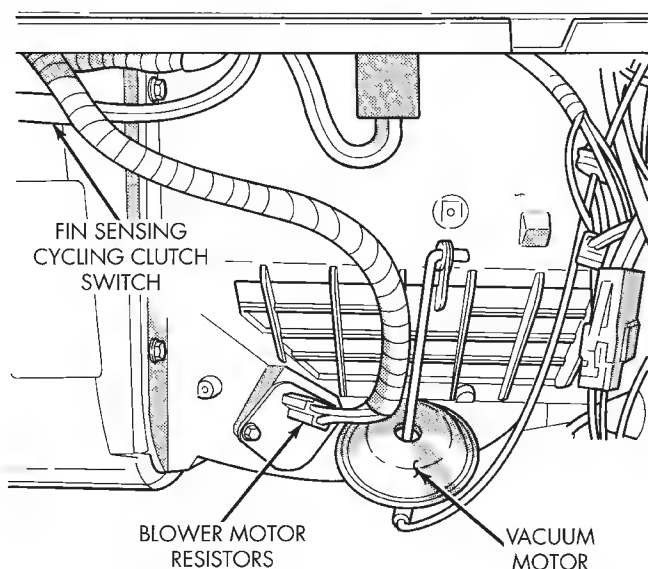

Fig. 19 Evaporator Housing Components
- (1) Disconnect negative cable from battery.
- (2) Recover refrigerant from A/C system and disconnect A/C lines from the expansion valve.
- (3) Disconnect the blower motor wires and the vent tube.
- (4) Remove center console. Refer to Group 23 body for procedure.
- (5) Remove the lower instrument panel.
- (6) Disconnect the electrical connections at the blower motor resistors and cycling clutch switch. Disconnect the vacuum hose at the vacuum motor (Fig. 19).